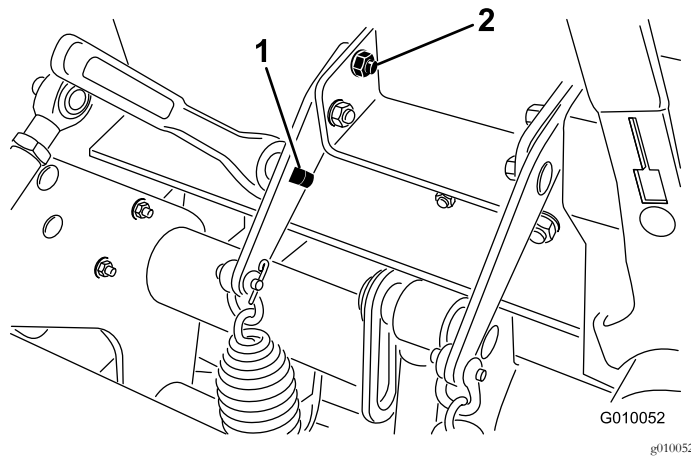

Figure 37
3. Insert a 1/2 inch ratchet or breaker bar into the square hole in the spring plate (Figure 37).